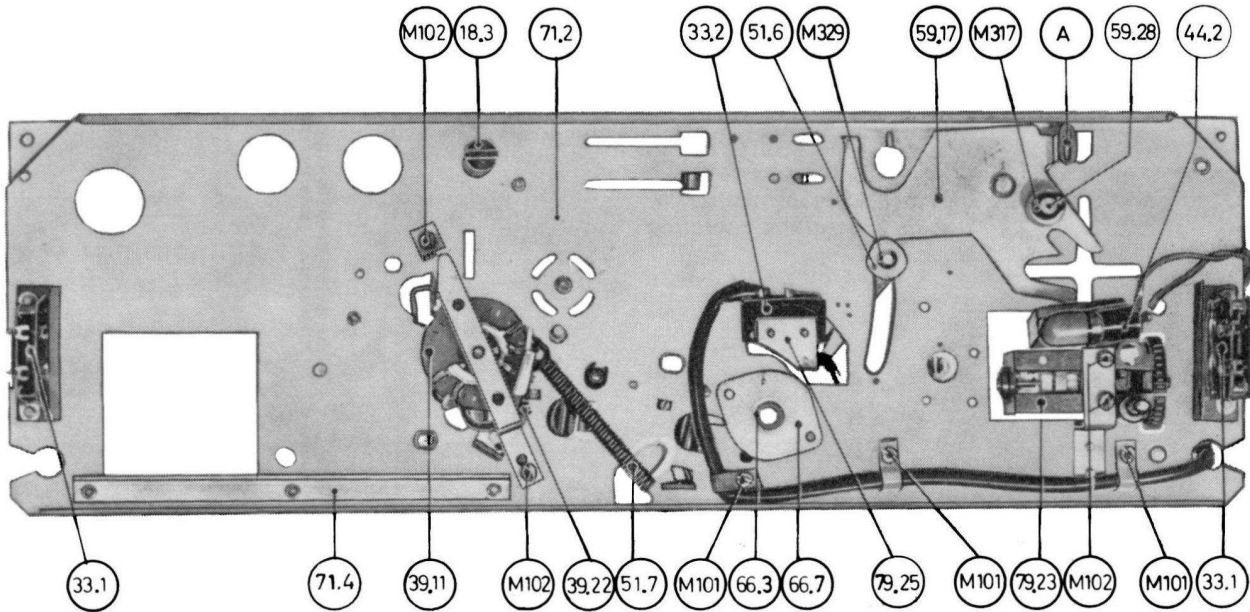
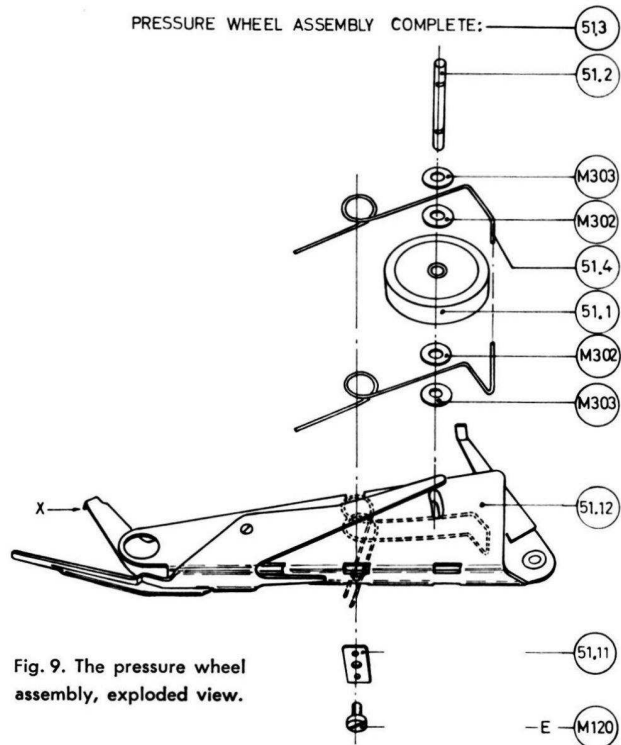

Fig. 8. The upper mounting plate, bottom view.
Fig. 9. The pressure wheel assembly, exploded view.
The eccentric segment (59.17) is located underneath the upper mounting plate (71.2), and is connected to the operating lever (54.1). Ref. fig. 8 and 9.
Adjust the return motion of the pressure wheel assembly (51.3) by bending the lug (A) ref. fig. 8 to
The pressure wheel (51.1) is mounted under balanced spring tension, with the pressure wheel shaft (51.2) running through two oblong slots in the pressure wheel bracket (51.12). This mounting gives the pressure wheel (51.1) approx. 6 mm (1/4") horizontal springloaded play, on a line perpendicular to the front of the upper mounting plate (71.2). Ref. fig. 9.
The balanced spring tension of the pressure wheel (51.1) is adjusted to obtain uniform pressure of the pressure wheel against the capstan. Loosen screw E, and turn the spring equalization latch (51.11) clockwise or counter clockwise until the tape runs smoothly by the pressure wheel (51.1) in normal forward drive. Make sure that no air-pockets are formed between the tape and the pressure wheel (51.1) and that the tape is completely covered by the rubber surface of the pressure wheel. Ref. fig. 9 and 10.
The muting switch (39.11) is located between the upper and the lower mounting plates (71.2, 71.1). Ref. fig. 8. The muting switch (39.11) shortcircuits both record playback heads in all positions of the operating lever, except normal forward drive. The switch is introduced to prevent the heads from being magnetized by the transient electrical shocks which will appear when the function selector switch is operated. The pressure wheel bracket (51.12) activates the muting switch (39.11) by the lug X. Ref. fig. 9. The lug enters through an oblong slot in the upper mounting plate (71.2) in front of the erase head.